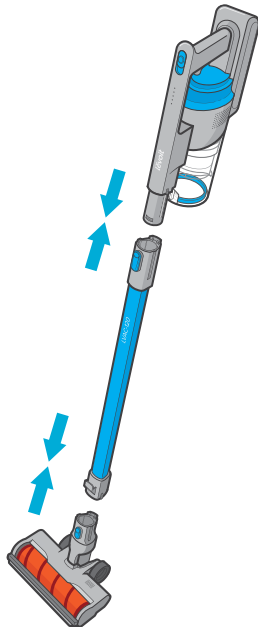

Figure 1.1
2. Attach the vacuum head to the bottom of the stick and attach the vacuum body to the top [Figure 1.1].